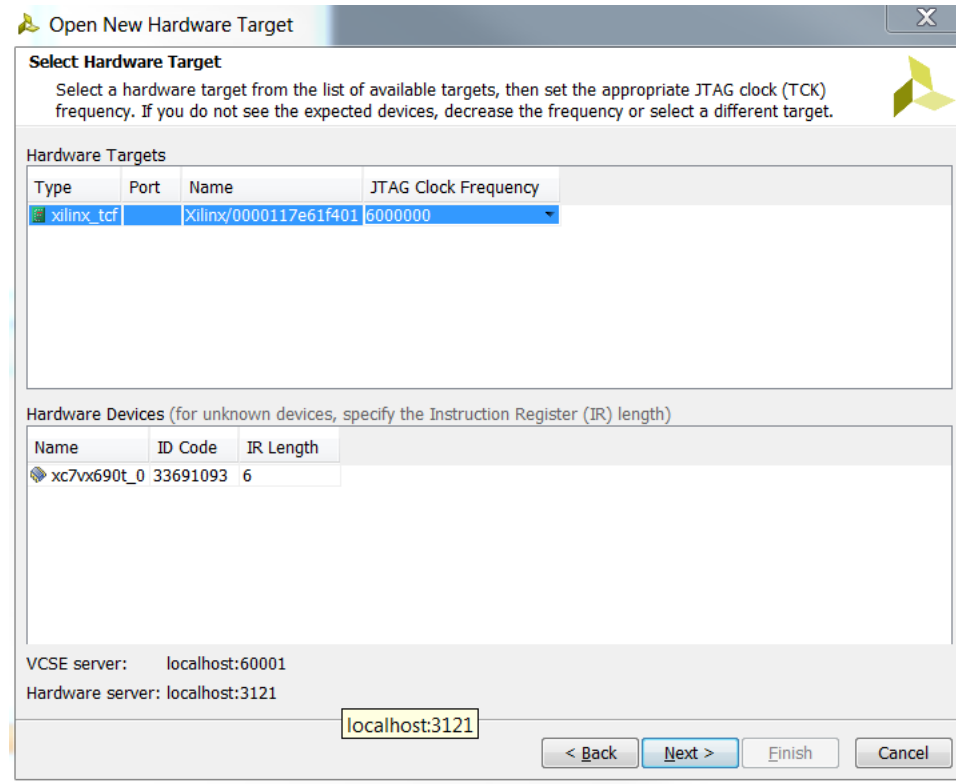

Figure A-6: Select Hardware Target
7. Select **xilinx_tcf** for the hardware target and click **Next** (see Figure A-6).